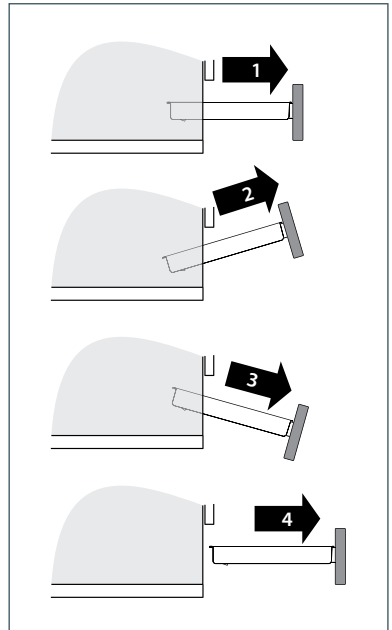

Fig.88 Removing the drawer
- To remove the drawer, proceed as per Fig. 88.